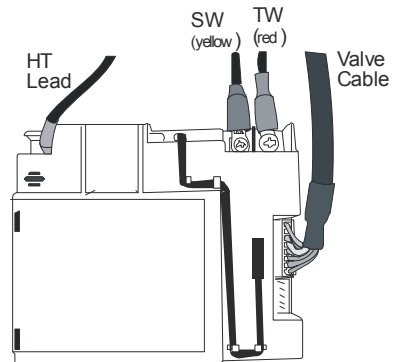

Figure 62
2. Pull out the four cables through the heat shield and connect them as shown in **Figure 62**.